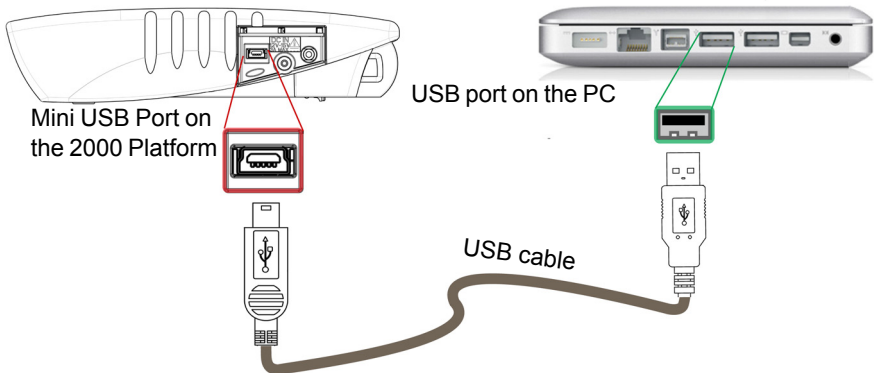

Figure 42 Direct connection 2000 Platform <-> PC
- 2 Plug the RJ 45 connector of the 2000 Platform into a hub or Ethernet switch with a straight-through Ethernet cable (see Figure 42 on page 95).